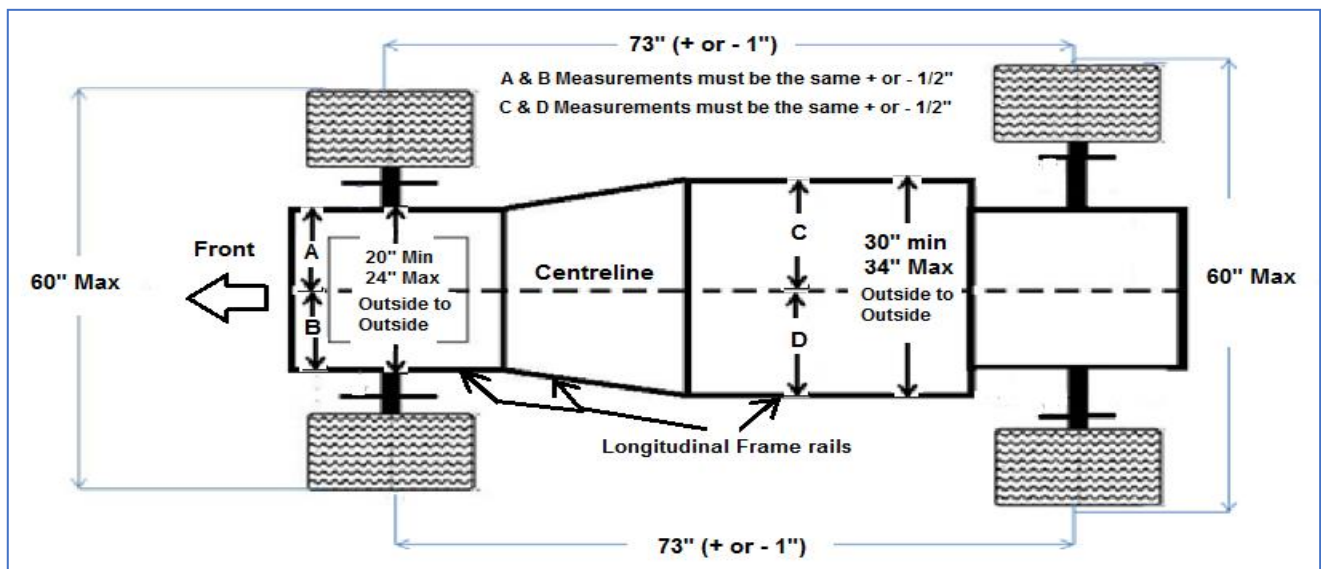

Figure 17
24.1 Maximum frame width is 34 inches, and the minimum frame width is 30 inches (no tolerance). These are outside dimensions (*Figure 17*).
24.7 Frame rails may taper inward, forward of driver seat area (*Figure 17*).